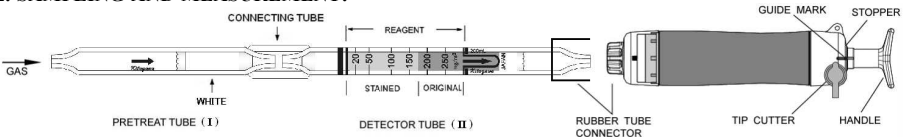

Fig.1
- ① Break both ends of the detector tube (II) and pretreat tube (I), and connect each end of the detector tube and pretreat tube with connecting tube as shown in Fig.1.
- ② Insert the detector tube into the aspirating pump securely as shown in Fig.1. (Arrow marks shall point to the pump.)
- ③ Align the guide marks on the shaft and stopper of the aspirating pump.
- ④ Pull the pump handle at a full stroke until it locks and wait for 1.5 minutes or until the completion of sampling is confirmed with the flow indicator of the pump. (See descriptions about the flow indicator in the instructions manual of the pump.)
- ⑤ Push back the handle without removing the detector tube from the rubber tube connector so that air in the pump will be discharged perfectly. Then repeat the step ③~④ once more.
- ⑥ On completion of sampling, read the scale at the maximum point of the stained layer.